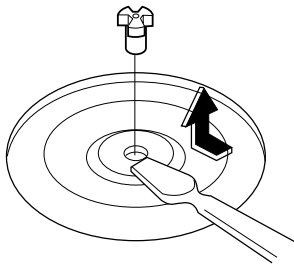

Figure 21
- (1) Remove the turntable.
- (2) Remove the turntable shaft VERY CAREFULLY with a slotted screwdriver. (Figure 21)